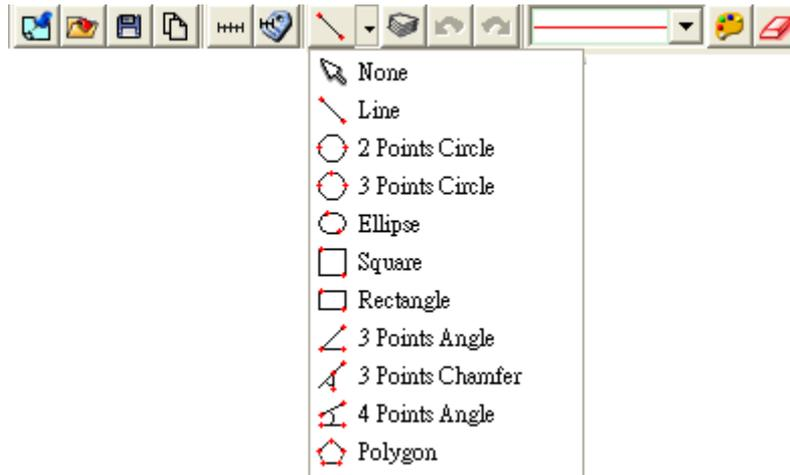
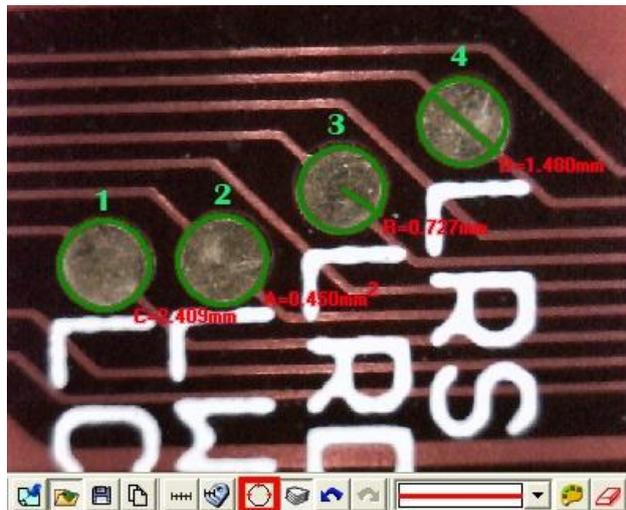
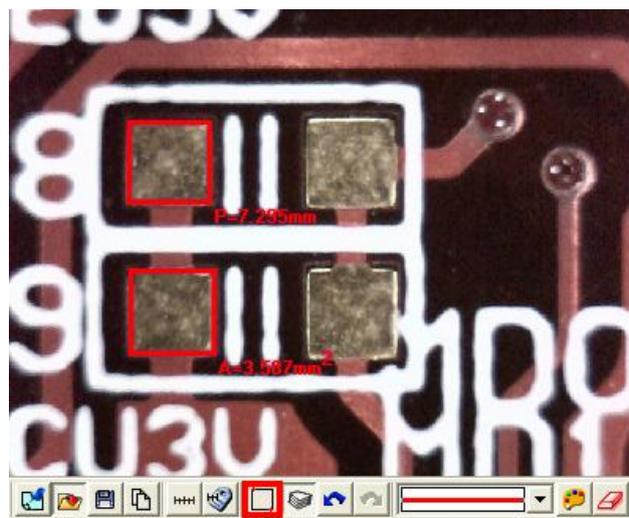
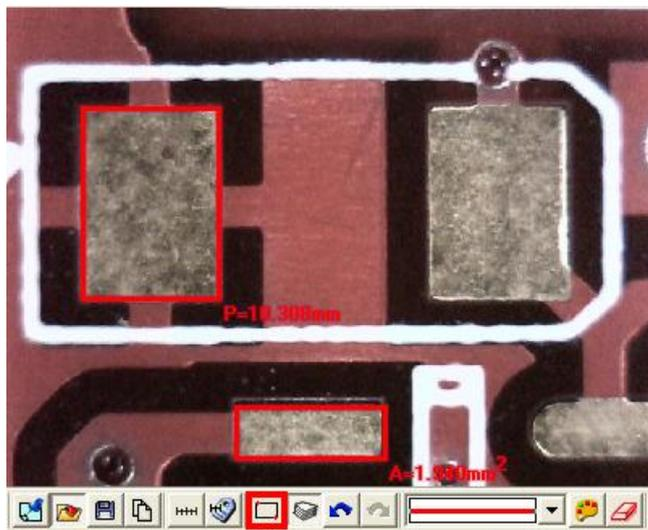

Fig.5-63 Measurement Tool Styles
Fig.5-66 3 Points Circle
Fig 5-68 Square
Fig 5-69 Rectangle
The measuring include optional Line, 2 Points Circle, 3 Points Circle, Ellipse, Square, Rectangle, 3 Points Angle, 3 Points Fillet, 4 Points Angle, and Polygon for variable demand. As shown in Fig. 5-63.
- (1) Line: Measure the Length and use . See Fig 5-63. Firstly choose Fig.5-63 Scale information setting dialog. Measure the Length on the PCB rectangle, choose the “line” icon, then draw a line, the “L” means Length. Ex: L=5.510mm as Fig. 5-64.
- (2) 2 Points Circle: Measure the round object can use . Firstly choose Fig.5-63 Scale information setting dialog. To point any dot on the circle, pressing the left
(3) 3 Points Circle: See an arc or a circle shows on the observation only and need measure the circle, it can use . Firstly choose Fig.5-63 Scale information setting dialog. To point any point on the edge of an arc, draw a line to second point, then drag the line to the third point on the same arc, to automatically calculate a correct circle. The said 3 points on the arc to be necessary a triangle. circle.The said 3 points on the arc to be necessary a triangle. See Fig.5-6, the See Fig 5-66, the figure can be measure as 2 Point Circle. 1st circle: Circumferences C=2.409mm, 2nd circle Area A=0.450 mm², 3rd circle: R=0.727mm, 4th circle: D=1.480mm.
- (5) Square: To measure the object is a parallelogram, it can use . Firstly choose Fig.5-63 Scale information setting dialog. To point one dot on the angle, pressing the left mouse button, and drag the diagonal to make a square and fit the observed object. See Fig 5-68 , P : Perimeter, A: Area, see Fig 5-68, the top square on left P=7.295mm, the bottom square on left A=3.587 mm². P=7.295mm, the bottom square on left A=3.587 mm².
- (6) Rectangle: Measure a rectangle and use . Firstly choose Fig.5-63 Scale information setting dialog. To point one dot on the corner, press the left mouse button, and drag the diagonal to make a rectangle to fit the observed object. See Fig 5-69, P : Perimeter, A: Area, see Fig 5-69, the top rectangle on left P=10.308mm, the bottom rectangle in the middle A=1.940 mm².